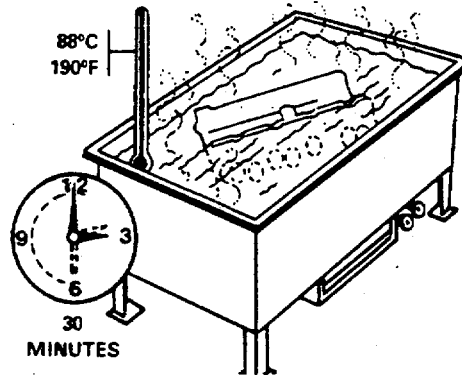

FIGURE 4-9. Washing Cylinder Head.
- c. Wash the cylinder head in hot soapy water. Let set for 30 minutes with water temperature 190 °F (88°C). See FIGURE 4-9.